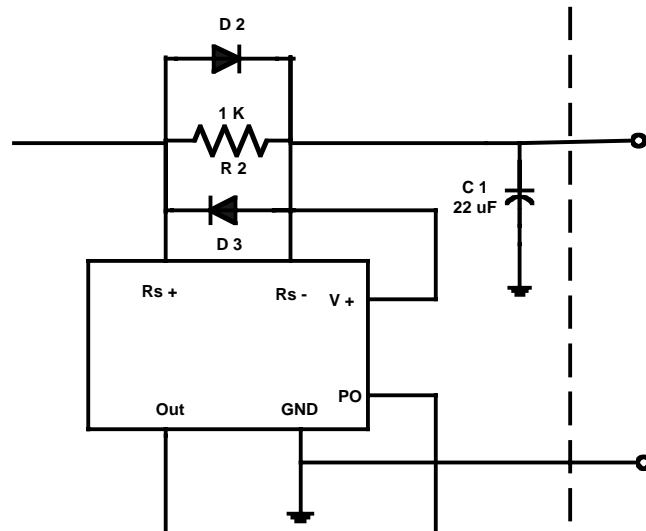

Figure 12: Part of a Circuit of a Wireless Modem
- Voltage Clamp: Diodes are also used to clamp voltage levels. Often integrated circuits may be sensitive to excessive voltages across certain pins. Figure 12 illustrates an example of a wireless modem amplifier.